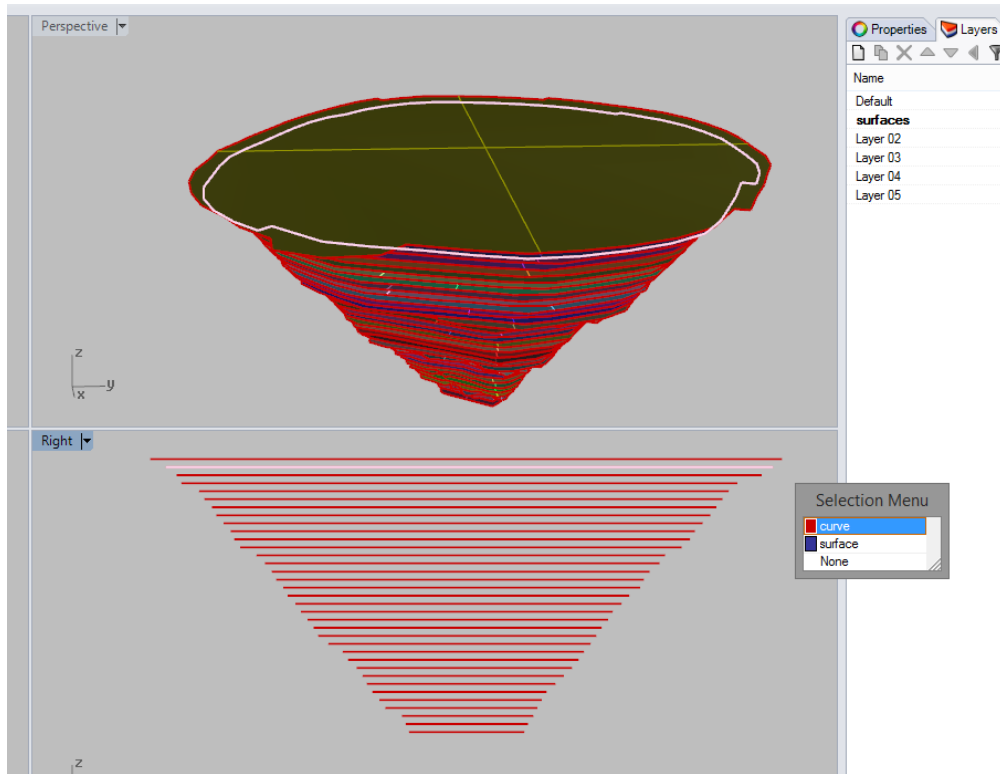
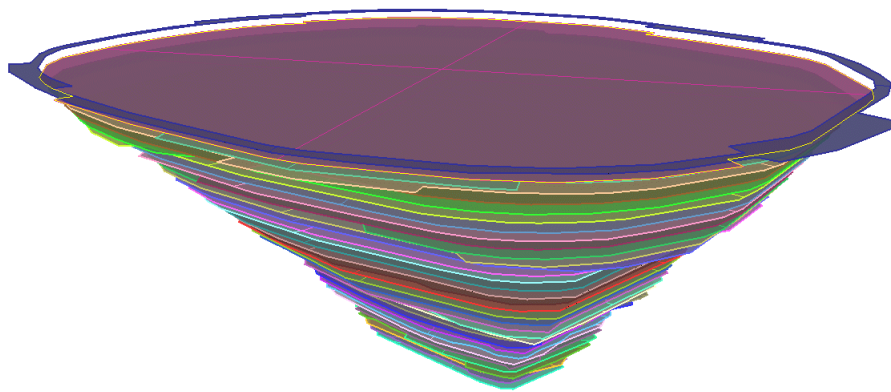

Figure 123: Perspective and Right views showing trim curve selection for trimming surface above it.
Figure 124: Perspective view showing trimmed top surface obtained by trimming the top surface with the outer border of the surface immediately below it.
22. We will now trim each surface with the border line of the surface directly below it. Make sure all four views are open. We will work in the Perspective and Right views. Make sure your surfaces are shaded in your perspective view to make them easier to see (click somewhere in the Perspective window and type **_FlatShade**). To trim the highest bench surface, first select the curve immediately below the top surface in the Top view as shown in Figure 123. While the curve is selected, type **_Trim**, and select a point well inside the top surface in your Perspective view to trim away the part of the top surface located **inside** the curve. You should end up with a trimmed surface similar to that shown in Figure 124.